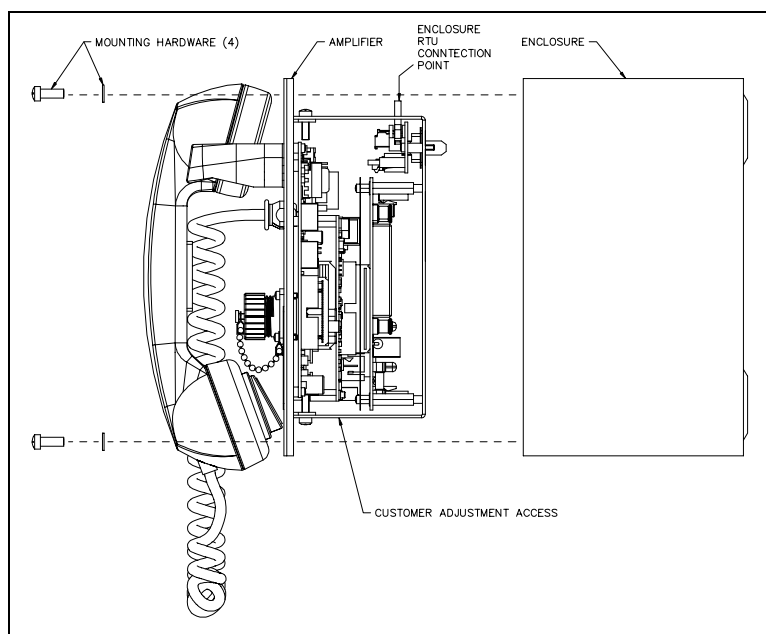

Figure 1. ICS DC-Powered Page/Party® Plug-in Amplifier Installation
2. Attach the amplifier to the enclosure with the hardware provided. See Figure 1.